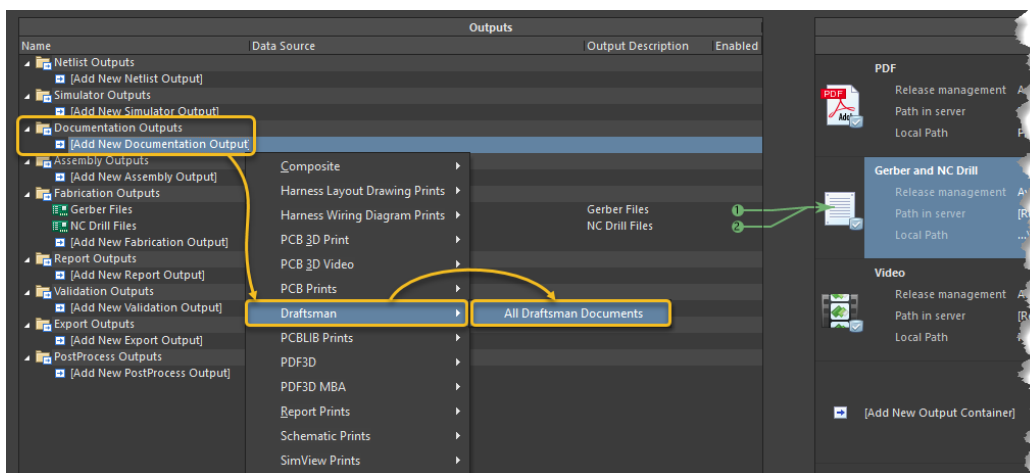

Figure 23. Adding new documentation output
- a) In the Section *Documentation Outputs*, click on *[Add New Documentation Output]* and select **Draftsman » All Draftsman Documents**, Figure 23.